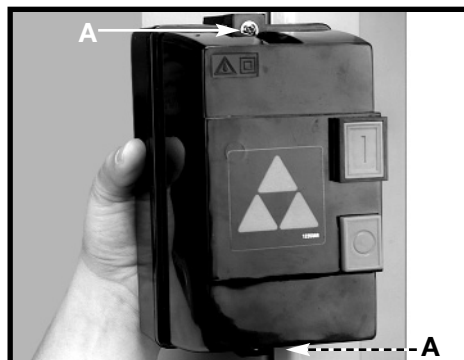

Fig. 3
1. Remove the two screws (A) Fig. 3 on the cover of the on/off switch, and remove the front cover.